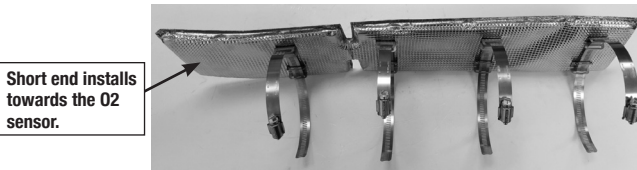

Fig. 2
The PTO Equipped Caution Label, which measures approximately 2" x 3", is to be placed within the cab of the vehicle and in easy view of the vehicle operator. It should be located near the PTO control, when the control is installed in the vehicle dash (see figure 2). This label directs the operator to read the PTO operating instructions on the Visor Label. The Visor Label, which measures approximately 4" x 6½", is to be placed on the visor on the operator's side of the vehicle. See figure 2 below.
4. Open the band clamps and insert each one through two eyelets in the shield as shown, so that the clamps are on the bottom side of the shield (Figure 2). Use all four clamps.